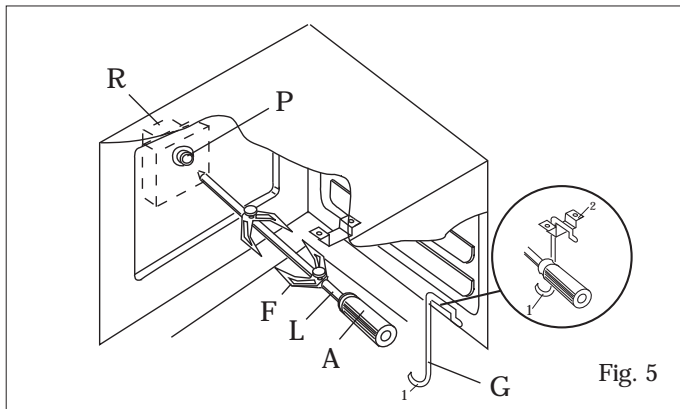

Fig. 5
- Put the food in spit L (see fig. 5), paying attention to block it within the two forks F and to balance it, in order to avoid any unnecessary effort in motor R (fig 5).
- To remote the spit, operate in the opposite direction using knob A and protecting glove in isolating wool (see fig. 5).